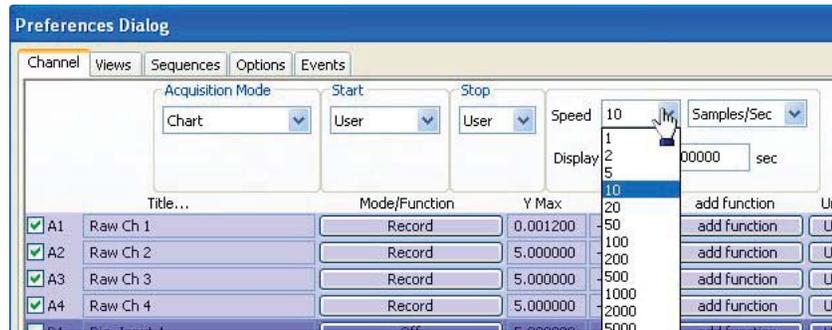

Fig. 37—Select number of samples from Speed drop down lists
1. To change the basic default settings, open the **Preferences Dialog** window (Fig. 37) by selecting the **Edit** menu and choosing **Preferences (Right)**.
- Use the two **Speed** drop down boxes to select the number of samples (first drop down box) per unit of time (second drop down box). See **Fig. 37**. The sampling rate should be chosen to record fast enough to create a minimum of two to three points of data for the fastest signal expected when recording. For use with the **TBR4100/1025**, WPI recommends setting the speed between 10 and 20 samples per second.
- Set the **Display Time** to 60.0 seconds (**Fig. 37**). The elapsed sampling time displays at the bottom of the default LabScribe main window. This value determines the amount of time viewable in a single data frame, or the “width” of the display window.